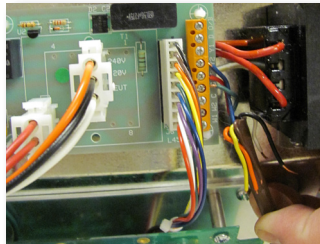

Fig. 2a
2. Unplug all thermostat and power wired connections from air handler, in order to remove motor/blower module. (Figs. 2a, 2b)